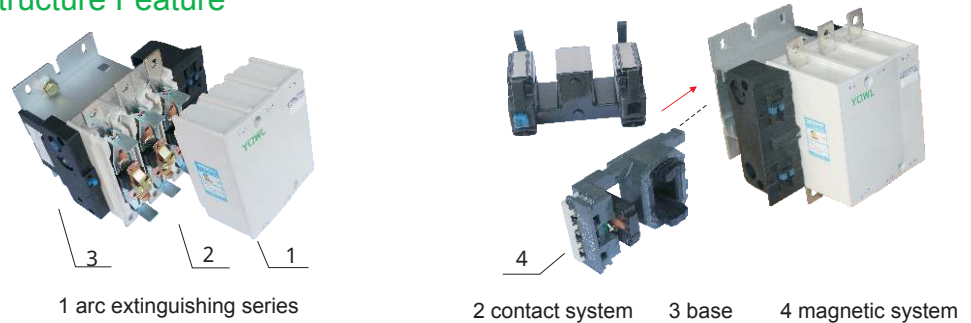

Figure 1 Schematic diagram of the overall structure of the CJX2-F115~F265 contactor
- The contact system of the contactor is a direct-acting, double-breakpoint arrangement. The lower base is made of aluminum alloy profile, the coil is a plastic package structure, and the coil and the yoke are integrated, which can be directly taken out or loaded from the contactor. , maintenance is extremely convenient; (see Figure 1)